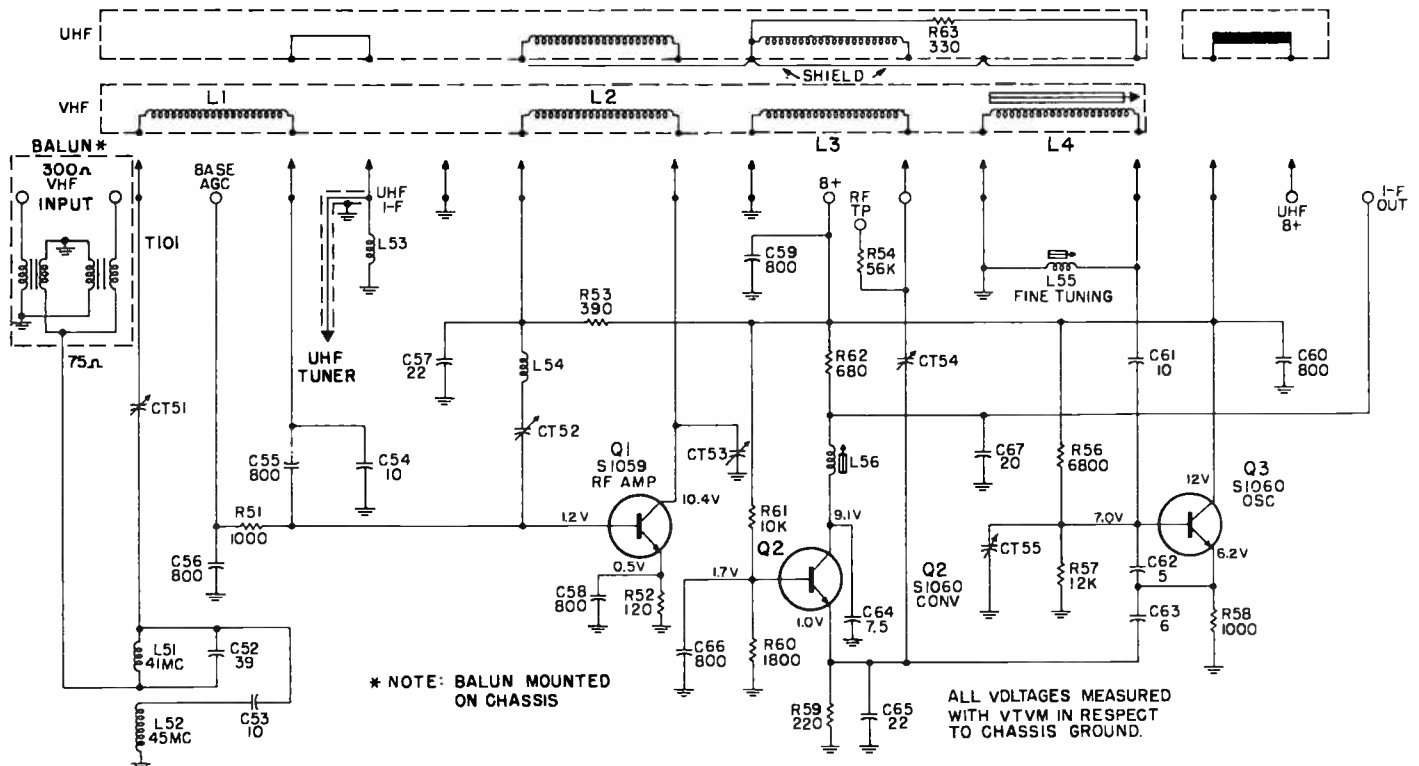

Fig. 44. Schematic of transistor VHF tuner.
A schematic diagram of the VHF tuner is shown in Fig. 44. The tuner is a thirteen-position tuner, one position for each of the VHF channels and a UHF position. The various coils for each channel are mounted on a drum which is similar to the drum used in tube-type turret tuners.
- (ag) How is the signal fed from the rf amplifier to the mixer in the tuner shown in Fig. 44?
- (ah) What type of transistor circuit is used for the mixer in Fig. 44?